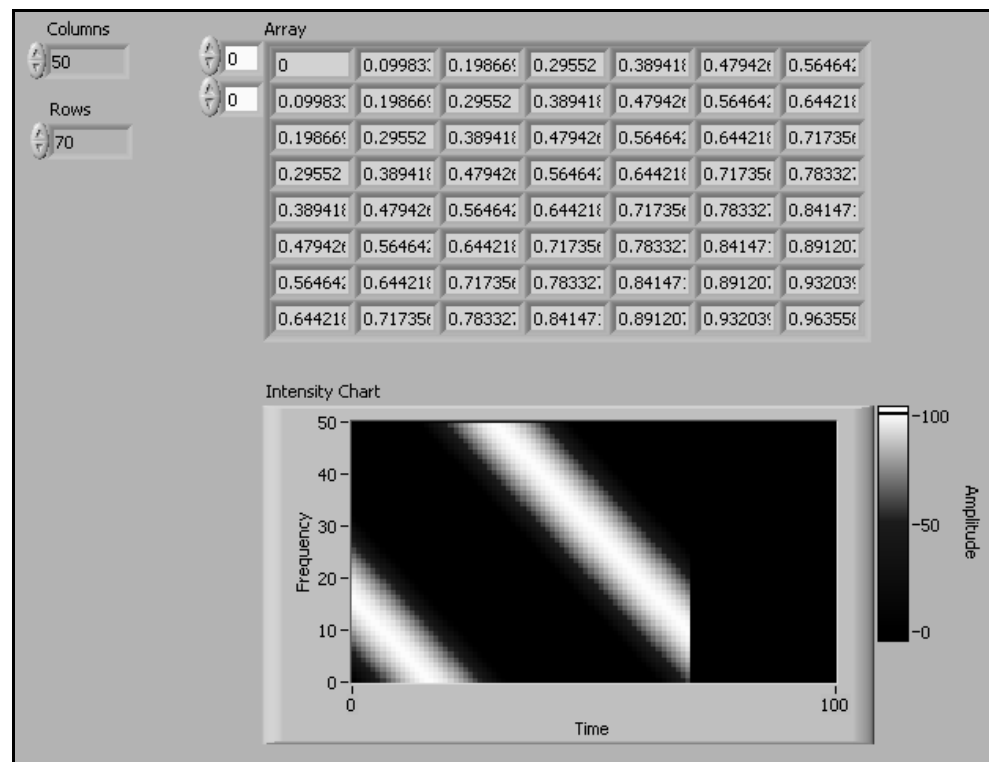

Figure 5-10. Array Investigation Part 1 VI Front Panel
3. Add an intensity chart to the front panel of the VI, as shown in Figure 5-10.